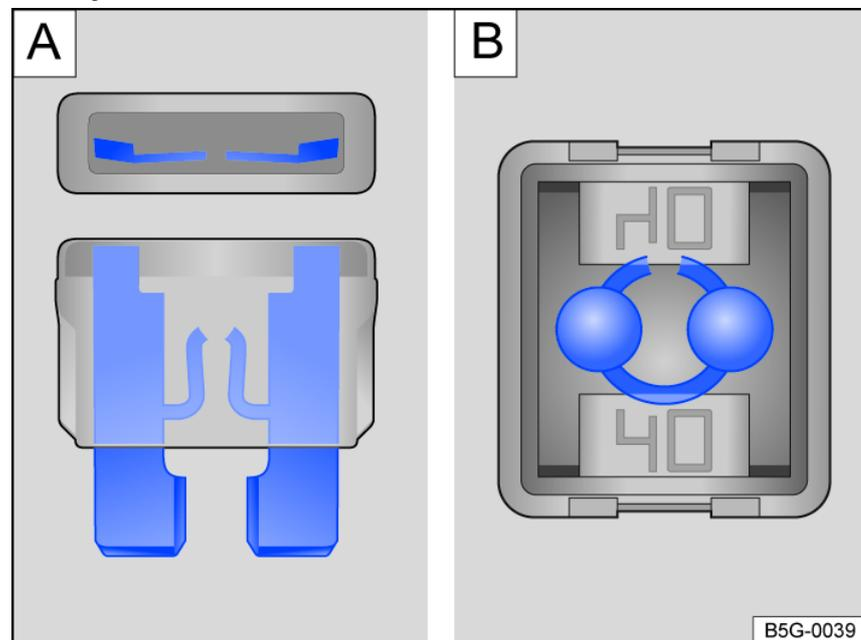

Fig. 187 Blown fuse (general example).
- A blown *flat connector fuse* (ATO®, MINI®) has metal strips that have burned through, which you can see through the transparent housing from above and from the side fig. 187 A.
- A blown *block fuse* (JCASE®) is recognizable by the melted metal strip seen through the transparent housing from above fig. 187 B.